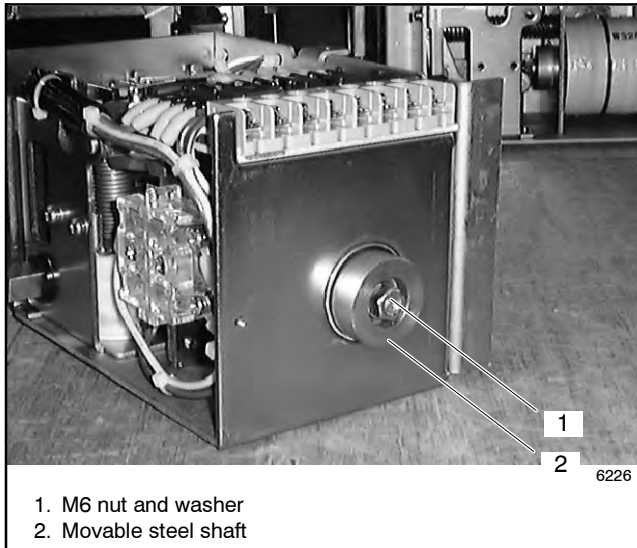

Figure 7-14 Movable Steel Shaft, 100-400 Amp Models
2. Remove the M6 nut and washer. Turn the movable steel shaft counterclockwise to remove it. See Figure 7-14.